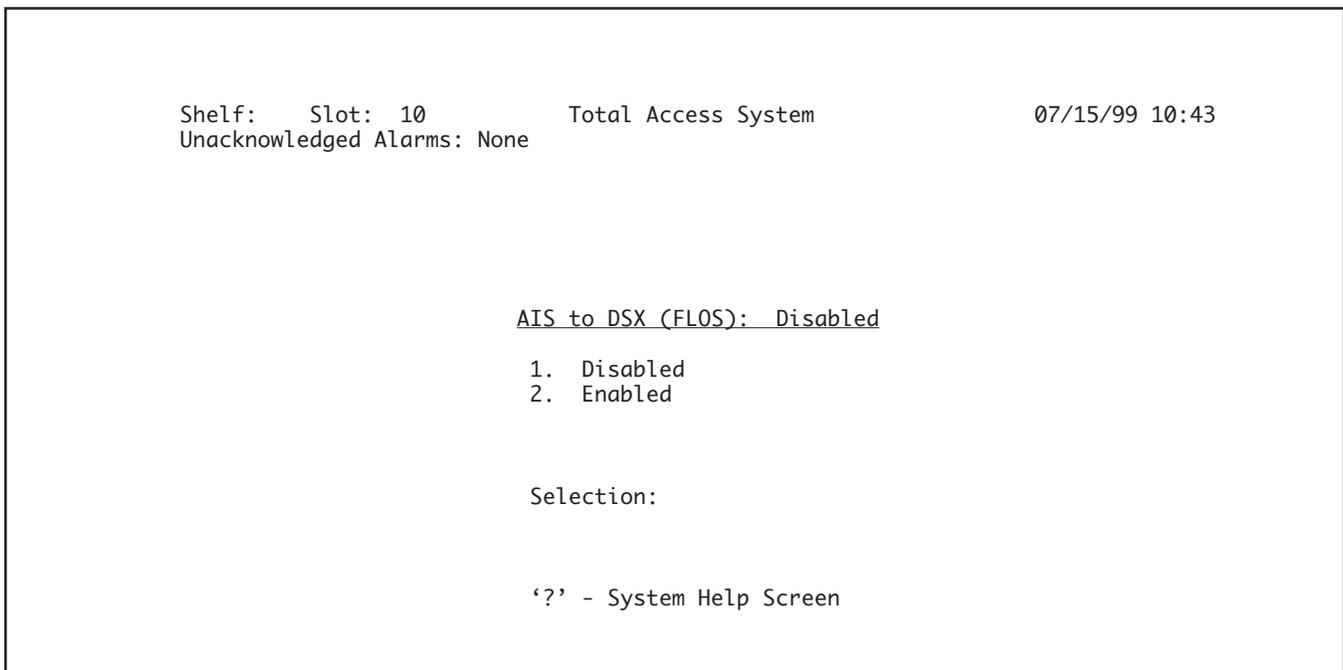

Figure 14. AIS to DSX (FLOS) Screen
1. From the Provisioning of All FLOS screen, type “4” and press Enter to select AIS to DSX (FLOS). The AIS to DSX (FLOS) Screen (**Figure 14**) will appear.